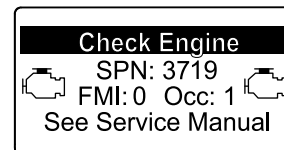

Figure 48
- If a recovery regeneration is needed, the InfoCenter displays engine warning SPN 3719, FMI 16 (Figure 48) and the engine computer derates engine power to 85%.